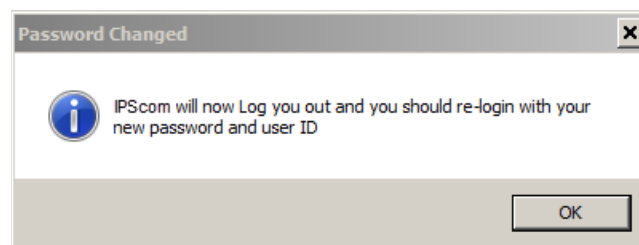

Figure 3-14 Password Changed Logout Confirmation Screen
6. When the Password has been changed on the unit, IPScom will display the "Password Changed Logout" confirmation screen (Figure 3-14).